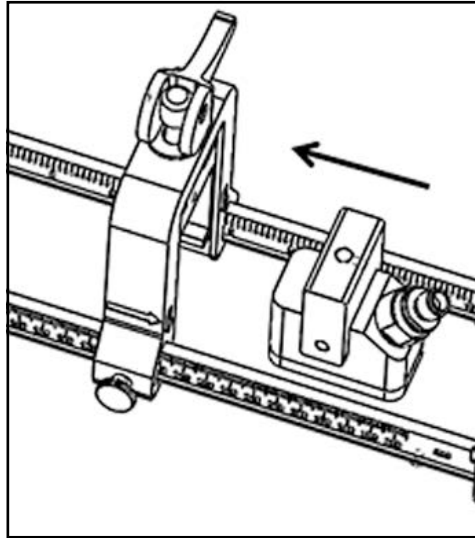

Figure 21: Inserting the Transducer
6. Slide a transducer, which is already locked into its transducer holder, into one of the clamp-on fixture's clamp holders until the plunger from the top of the transducer holder snaps into its position on the bottom of the clamp holder (see *Figure 21* below).